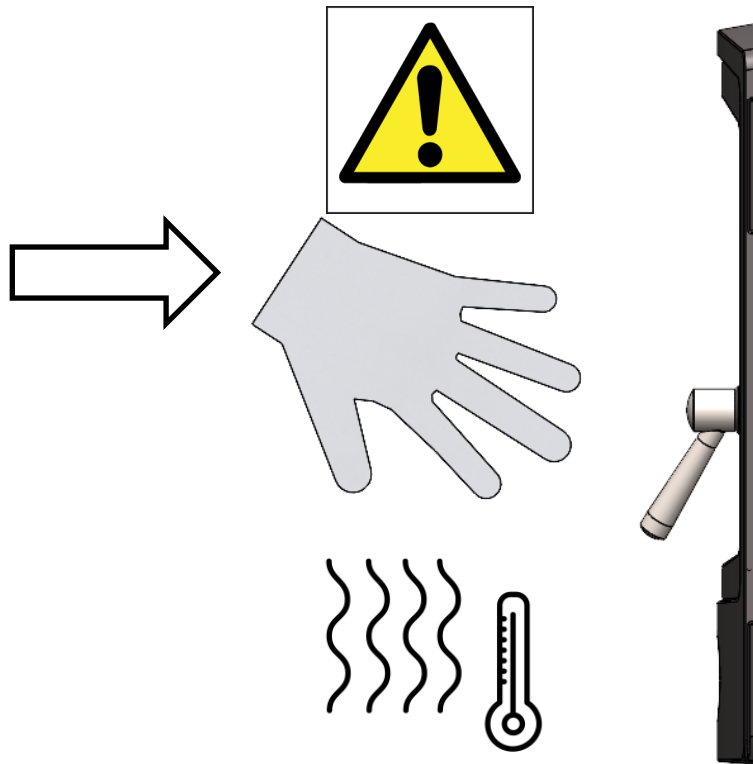

Fig. 16.
- Care must be taken when opening and closing the fire door as any surrounding surfaces will be VERY HOT. See Fig. 16.